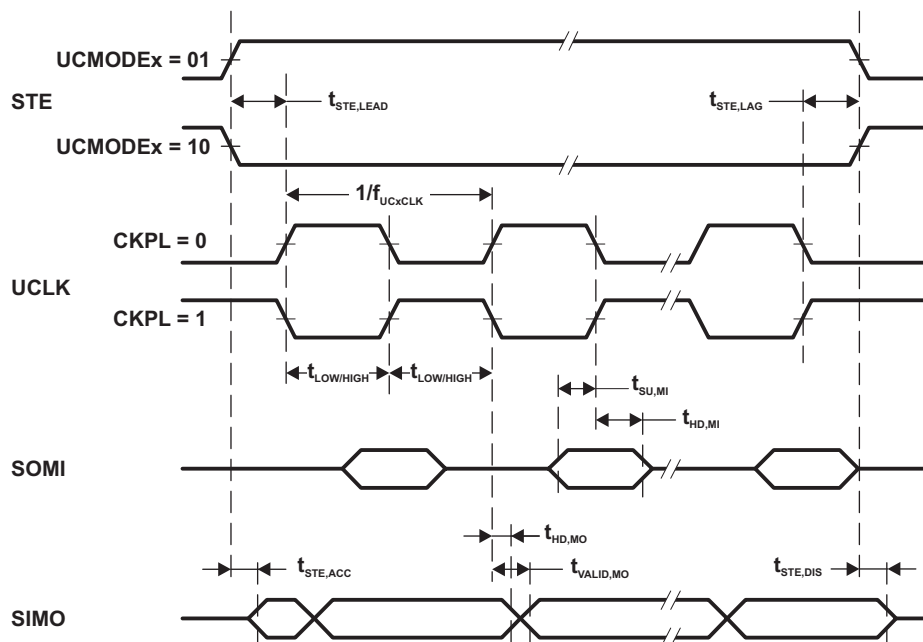
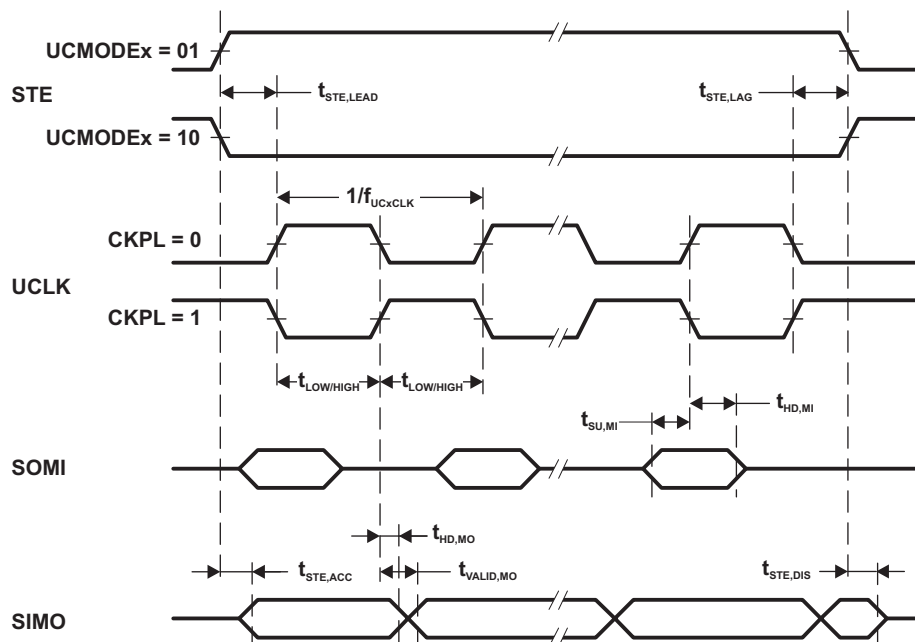

Figure 5-15. SPI Master Mode, CKPH = 0
Figure 5-16. SPI Master Mode, CKPH = 1
- (1) f_{UCxCLK} = 1/2t_{LO/HI} with t_{LO/HI} = max(t_{VALID,MO}(eUSCI) + t_{SU,SI}(Slave), t_{SU,MI}(eUSCI) + t_{VALID,SO}(Slave)). For the slave parameters t_{SU,SI}(Slave) and t_{VALID,SO}(Slave), refer to the SPI parameters of the attached slave.
- (2) Specifies the time to drive the next valid data to the SIMO output after the output changing UCLK clock edge. Refer to the timing diagrams in Figure 5-15 and Figure 5-16.
- (3) Specifies how long data on the SIMO output is valid after the output changing UCLK clock edge. Negative values indicate that the data on the SIMO output can become invalid before the output changing clock edge observed on UCLK. Refer to the timing diagrams in Figure 5-15 and Figure 5-16.